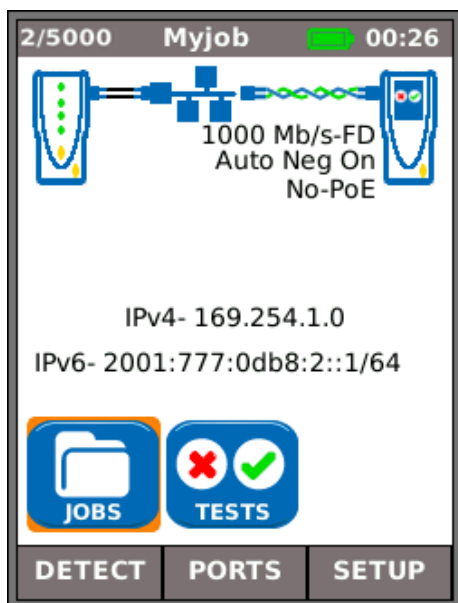

Fig 10
(3) When both the Near-End Unit and Remote Unit are connected to an active network, using copper or fiber cables, press the soft key DETECT (F1) to display all options available (Fig 10). IP tests and performance tests can be run. For a full description of these options see - *Tests menu description - Ethernet mode, page 29*.